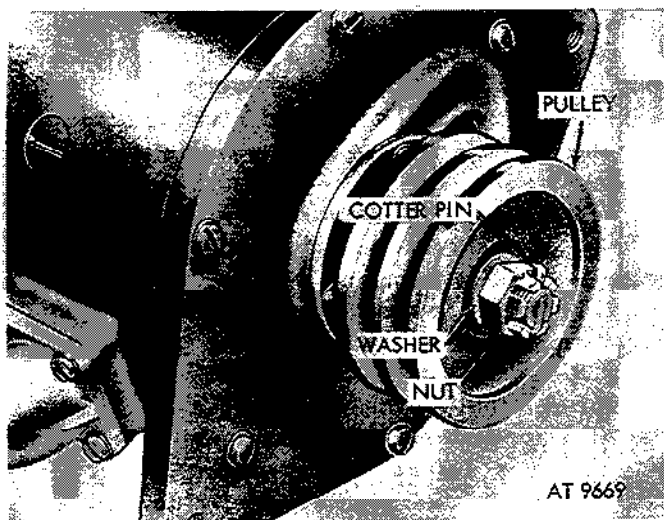

Figure 2-174. Remove pulley from generator shaft.
(4) Remove cotter pin, washer and nut. Discard cotter pin (fig. 2-174).
(5) Remove pulley from generator shaft, using suitable puller.
(6) Remove Woodruff key from slot in generator shaft.